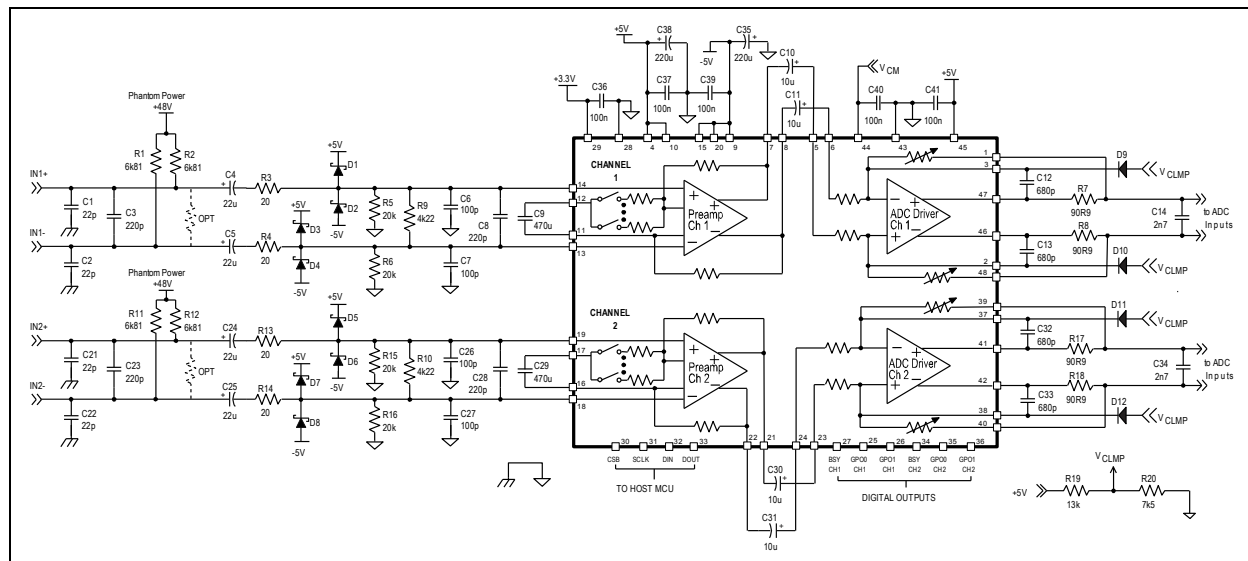

Figure 17. A typical bipolar-supply THAT 626x application circuit. See also Figure 18 for an alternative ADC anti-aliasing filter configuration.
Figure 17 is a typical 626x application circuit utilizing bipolar power supply rails. In this section, we discuss channel 1 in detail. However, all of the comments apply to the analogous components in channel 2.
The coupling capacitor (C9 in Figure 17, or CG in Figure 12) limits DC gain in the preamplifier to unity, regardless of the differential audio gain setting. The on-chip gain-setting R_G resistors in series with these capacitors vary with gain, which causes the cutoff frequency of the resulting high-pass filter also to vary with gain. This filter reaches its highest frequency at the minimum R_G (the highest gain), which is about 45 Ω (see Table 2). Hence, the highest cut-off frequency, with the 470 μF value shown in Figure 17 is ~7.5 Hz. Larger values will scale this frequency down proportionately. Since these capacitors, which are often physically large and stick up from the PCB, are effectively in series with the preamplifiers’ inputs, they can serve as antennae to collect interfering signals. Take care to minimize possible sources of interference nearby that may be picked up by these large coupling capacitors.
The 626x ADC driver inputs (pins DI+_{CHx} and DI-_{CHx}) are capable of accommodating the full differential and common-mode signal range at the pre-amp outputs. However, the ADC driver’s fully-differential opamp inputs (brought out on pins CFB+_{CHx} and CFB-_{CHx}) have a common-mode input range of 1V to +5V. If this common-mode range is exceeded in the negative direction, the opamp’s inputs and outputs can get stuck close to ground. Diodes D9 and D10 in Figure 17 clamp the minimum voltage at the ADC driver opamp’s inputs to one diode drop below the voltage V_{CLMP} . For V_{CLMP} nominally +1.8V, the diodes ensure that the opamp’s inputs do not go below 1V above ground. This ensures that the ADC driver will accept the full 3.8V_p common-mode signal swing that can be present at the preamp outputs.
+5V) and ground. In Figure 17, this divider is made up of 13 k Ω and 7.5 k Ω resistors R19 and R20.
Phantom power is required for many condenser microphones. It is connected to the preamp inputs through resistors, R1 and R2, per +48V phantom power standards. THAT recommends the protection circuits as shown in Figure 17 when phantom power is included. R3 and R4 are to limit the current that flows through the preamp inputs during phantom power faults that can occur if one or both of the inputs are shorted to ground while phantom power is on. We recommend that R3 and R4 should be at least 20 Ω to limit destructive currents to under ~ 2.5 A. (Higher values provide more protection by further limiting current flow, but their additional source impedance adds noise.) The protection resistors used should be able to handle the short-term inrush current; many small surface-mount types cannot. With the values shown for C4 and C5, we recommend at least ¼ W resistors.
Figure 17) when C4 and C5 are as shown at 22 μF . The large 220 μF capacitor absorbs the charge dumped by C4 and/or C5, and keeps the -5 V rail from being pulled excessively negative, which could damage the 626x. If larger values are employed for C4 and C5, then C35 and C38 should be increased proportionately.
The most common anti-aliasing filter configuration for driving audio ADCs is shown in Figure 17. Capacitors C12 ~ C14, resistors R7 and R8, and the internal feedback resistors of the ADC driver form a second-order lowpass filter. Since R7 and R8 are inside the amplifier's feedback loop, the closed-loop output impedance remains quite low inside the audio band, but they still serve to isolate the ADC driver's output from the high-frequency charging currents for the typical ADC's switched-capacitor inputs. C14 should be placed physically close to the ADC input pins.
As noted above, in the 6261, the ADC driver's internal feedback resistors vary, which will have a small effect on the overall filter response. The frequency response for the -8 dB case is -3 dB at 560 kHz and -48 dB at 6.144 MHz. The response of the -5 dB case is -3 dB at 419 kHz and -51 dB at 6.144 MHz. As with the filter shown in Figure 17, for
As shown in Figure 17, THAT recommends a 100nF capacitor to ground on all the supply rails plus the VCM reference (pin 44) for high frequency noise filtering. For best effectiveness, place each 100nF capacitor close to its associated pin in the PCB layout. For rails with multiple pins, e.g., V_{A-} and V_{A+} , only a single 100nF capacitor is needed per supply; connect the capacitors near pins 9 and 10.
- Delete clamp diodes D9 and D10 and the V_{CLMP} voltage divider R19 and R20 (from Figure 17) as these are not required for unipolar operation.
Further, the DC level of the preamplifier output is one V_{BE} below +5V Filt (thus about +4.3 V), while the ADC driver input's DC level is at V_{CM} (nominally +3.1 V). Hence, the ac-coupling capacitors between the preamp and ADC driver stages (C10 and C11) are reversed in polarity from those in Figure 17. We recommend these capacitors be rated at least 3.3 V.
Because the ADC driver V_{cm} voltage is set to +3.1V for unipolar applications, the full common-mode swing output swing from the preamp cannot force the ADC driver opamp inputs below the minimum allowable level. Hence, diodes D9 and D10 (and the associated voltage divider) as in Figure 17 are not needed when the 626x is powered by unipolar supplies.